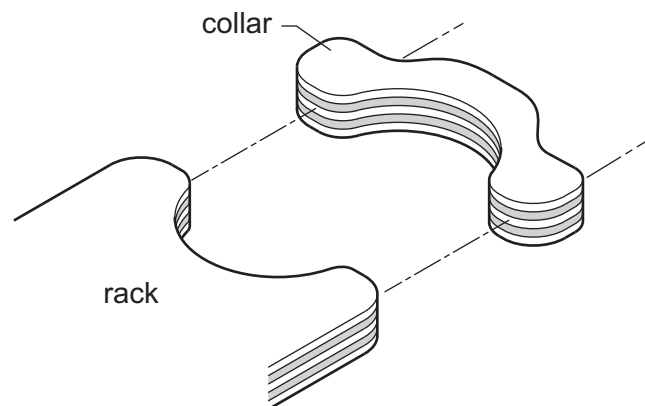

**Fig. 11.3**
- (e) Fig. 11.3 shows the scan fitting that will be used to join the collar to the drill rack when the collar is fitted around the pillar of the pillar drill.